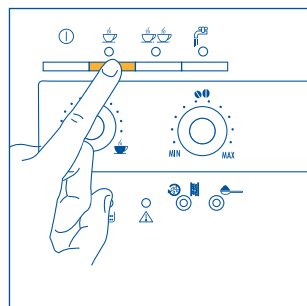
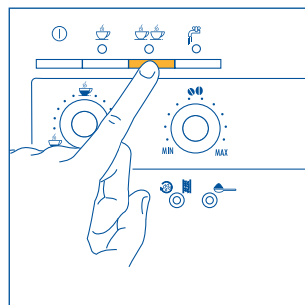

Fig.12
Fig. 13
- 5) Press the ☕ button (Fig. 12) to make one cup of coffee or the ☕☕ button (Fig. 13) to make 2 coffees. *At this point the machine grinds the beans, runs a short pre-infusion cycle, a pause and then completes the delivery.* Once the desired quantity has been reached, the machine automatically stops delivering the coffee and discharges the grounds into the coffee grounds container.
- 7) To switch the machine off, press the ① button. (Before switching off, the machine automatically runs a rinse cycle: a little hot water runs out of the spout and is collected in the drip tray underneath - be careful, to avoid scalds). If the machine is not switched off using the ① button, it will switch itself off and run a brief rinse cycle 3 hours after the last operation.
NOTE 4: while the machine is making the coffee, the delivery can be stopped at any time by pressing the ☺ button (Fig. 12) or ☺☺ button (Fig. 13), as previously selected.
NOTE 5: as soon as delivery is complete, to increase the quantity of coffee, simply press and hold the ☺ button (Fig. 12) or ☺☺ button (Fig. 13), as previously selected, until the desired quantity is reached (this operation must be performed within 3 seconds from when coffee delivery from the spouts ceases).